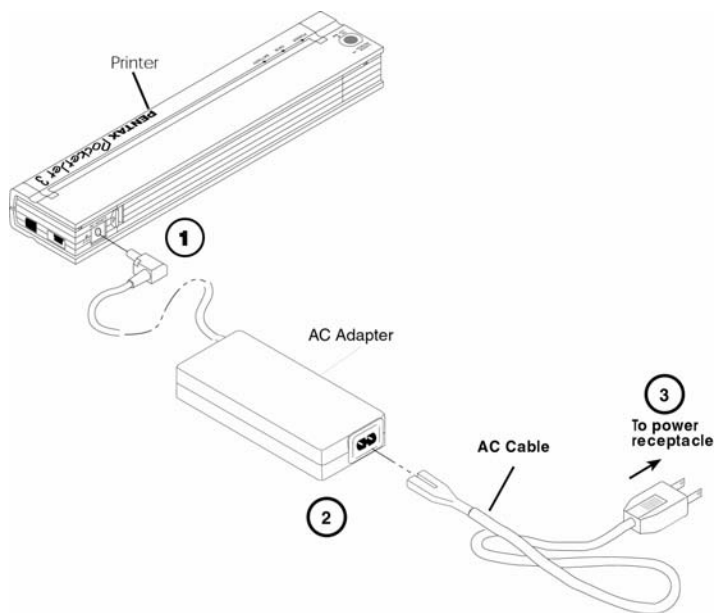

FIGURE 2. Connecting the printer to an AC power outlet
1. Connect the AC adapter to the printer as shown in Figure 2.
NOTE: *The plug on the AC power cord shown in Figure 2 is compatible with AC power outlets in the U.S.A., Canada, and some Central and South American countries. A plug adapter may be necessary for AC power in other countries or you can contact your local reseller or Pentax for further assistance.*